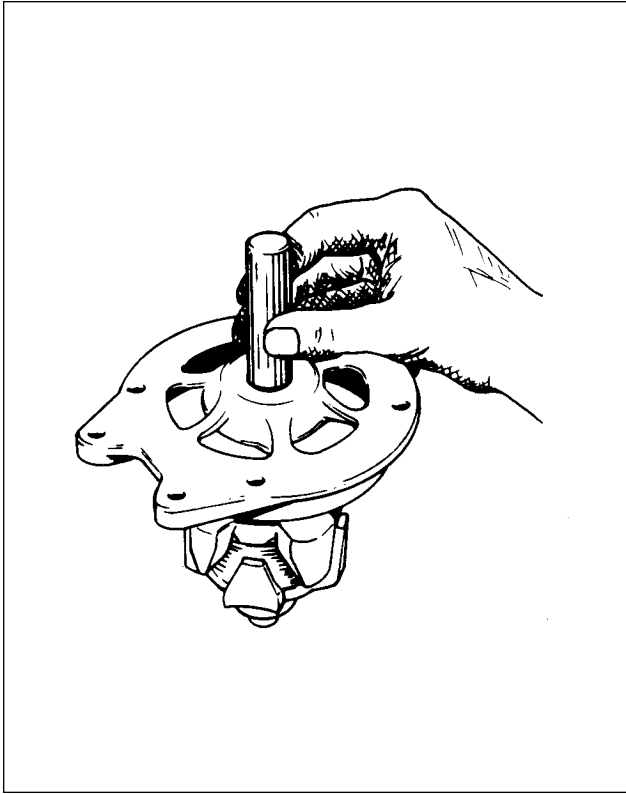

Figure 11-30. Installation of Drive End Head
- a. Press the ball bearing into the drive end head using a flat block approximately two inch square so that the pressure is exerted on the outer race of the bearing. Install the retainer plate. With the snap ring and retainer cup in place on the rotor shaft, use a tool that fits over the shaft and against the inner bearing race, and press until the inner bearing race is against the snap ring retainer cup. (Refer to Figure 11-30.)